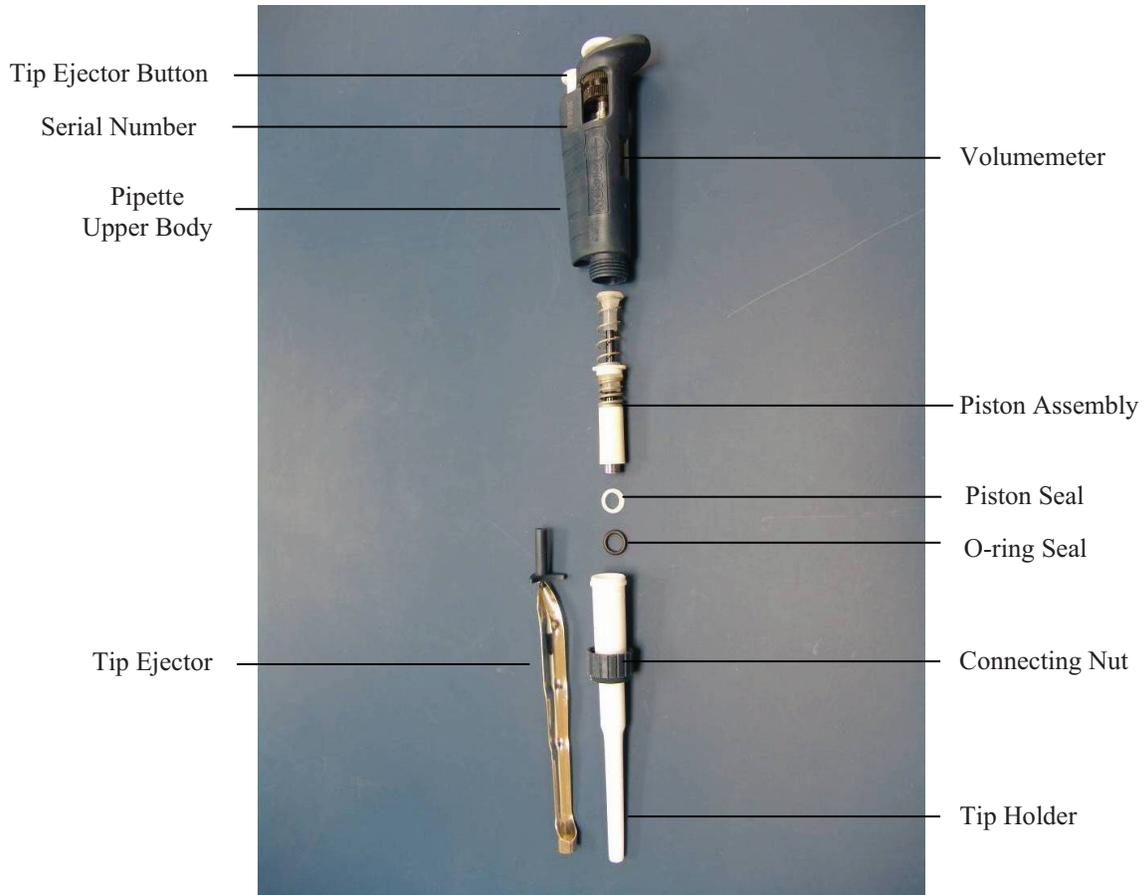

Figure 2: Pipetman® Component Breakout
- 9.2. Figure 2: Pipetman® Component Breakout